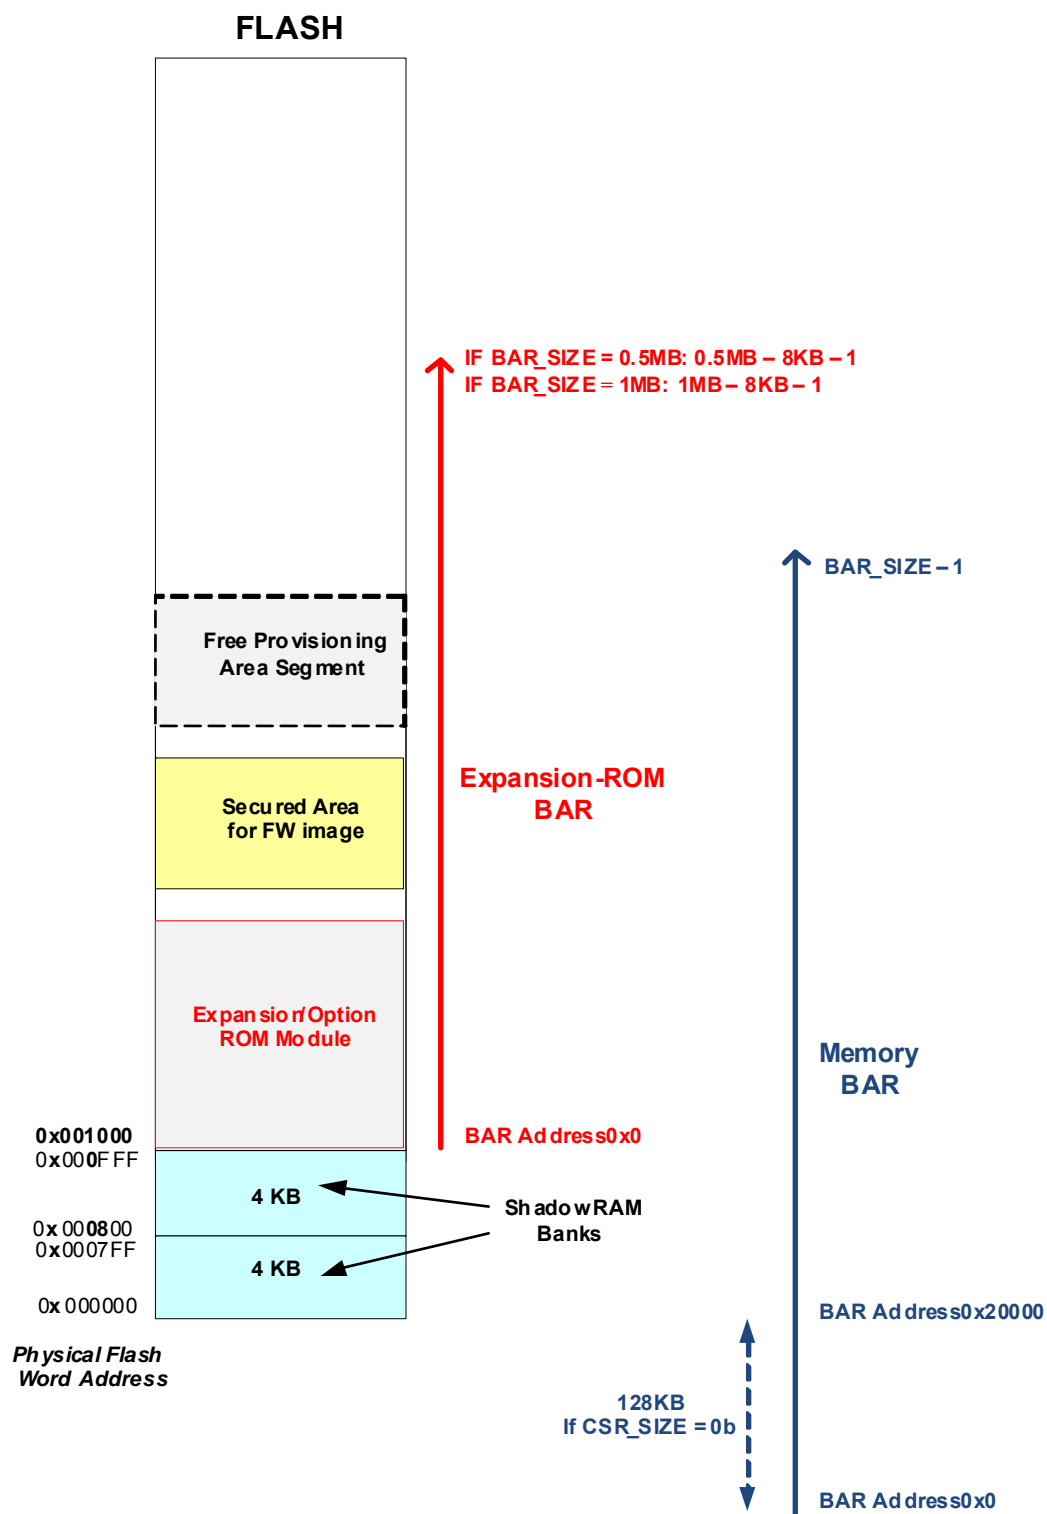
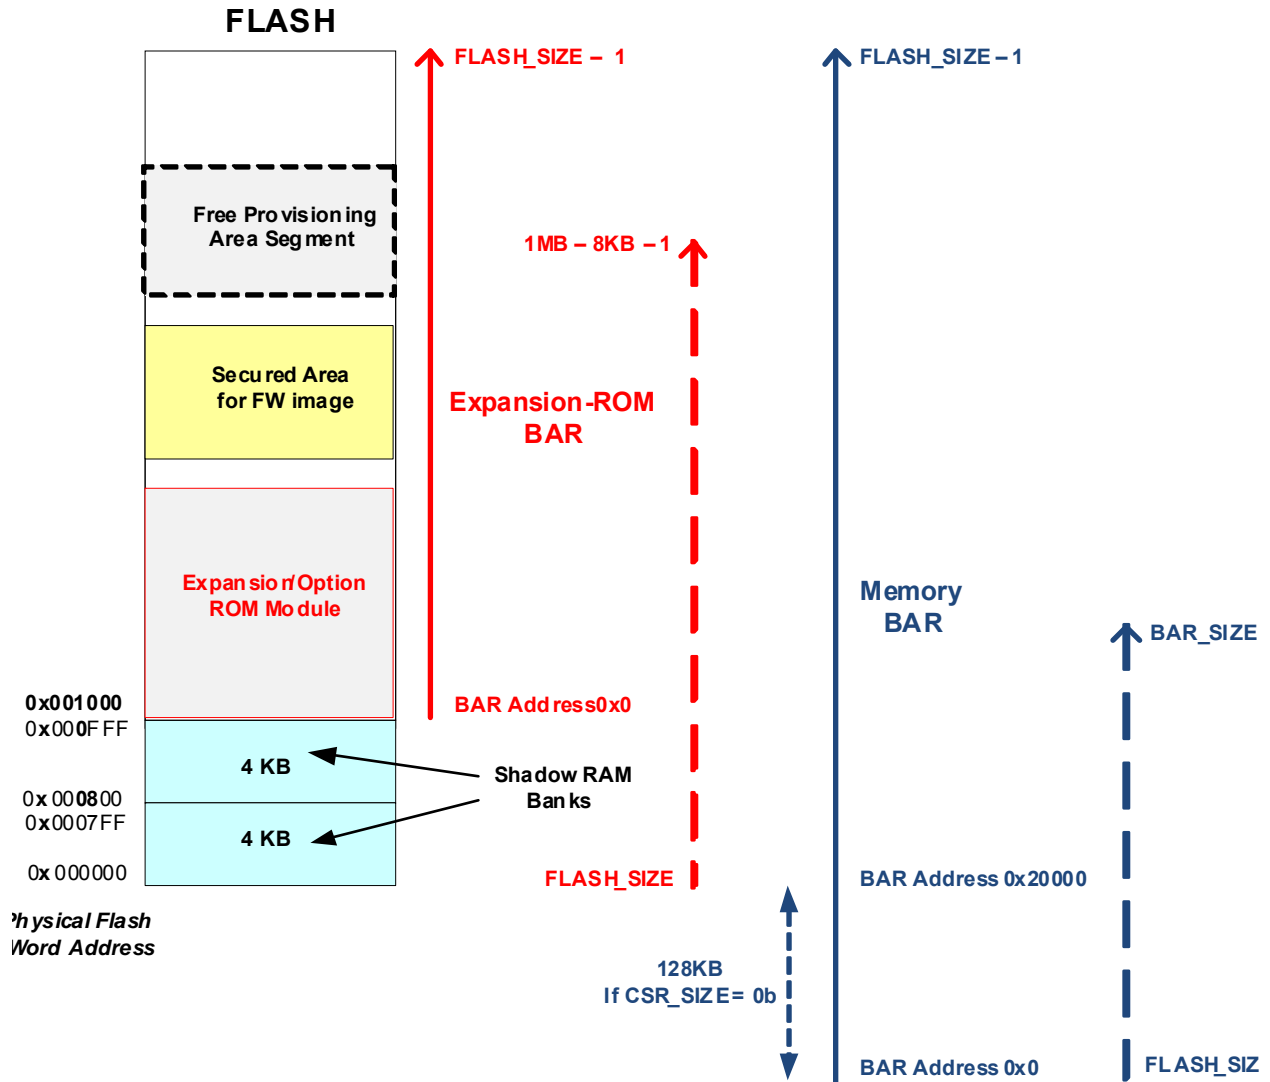

Figure 3-4. Flash Part Size is Larger Than BAR Size
Figure 3-5. Flash Part Size is Smaller Than BAR Size
- a. For *BAR_SIZE* = 0.5 MB, read accesses to the last 8 KB of the Expansion-ROM BAR returns unpredictable data. Refer to Figure 3-4.
- b. For *BAR_SIZE* ≥ 1 MB, read accesses beyond (1 MB - 8 KB) of the Expansion-ROM BAR returns unpredictable data. Refer to Figure 3-5.
While in the non-secure mode, Flash BAR access while FLA.FL_REQ is asserted (and granted) is forbidden. It can lead to a PCIe hang as a bit-banging access requires several PCIe accesses. Figure 3-4 and Figure 3-5 show the BARs mapping schemes according to the size of the BAR vs. the Flash memory sizes supported.